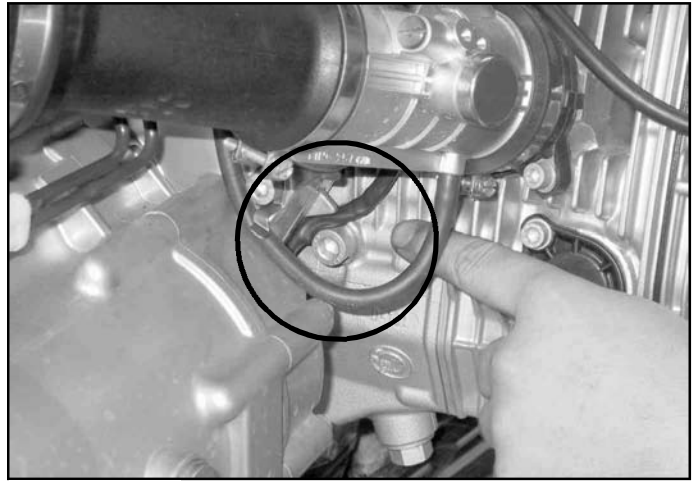

Figure 17
9. Route the Lambda sensor wires the same as original, reconnect the sensor plug. Secure the wires to the right frame rail with Cable Ties. **Figure 17.**